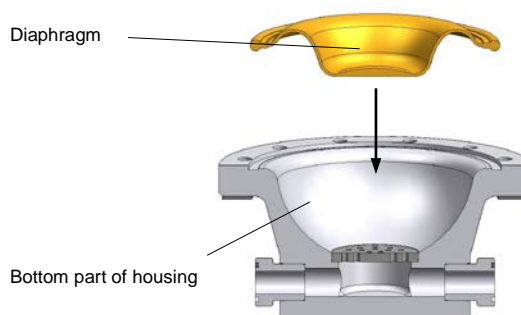

Fig. 23 Changing the diaphragm (plastic)
- Insert new diaphragm with the curvature pointing downward (see Fig. 23).